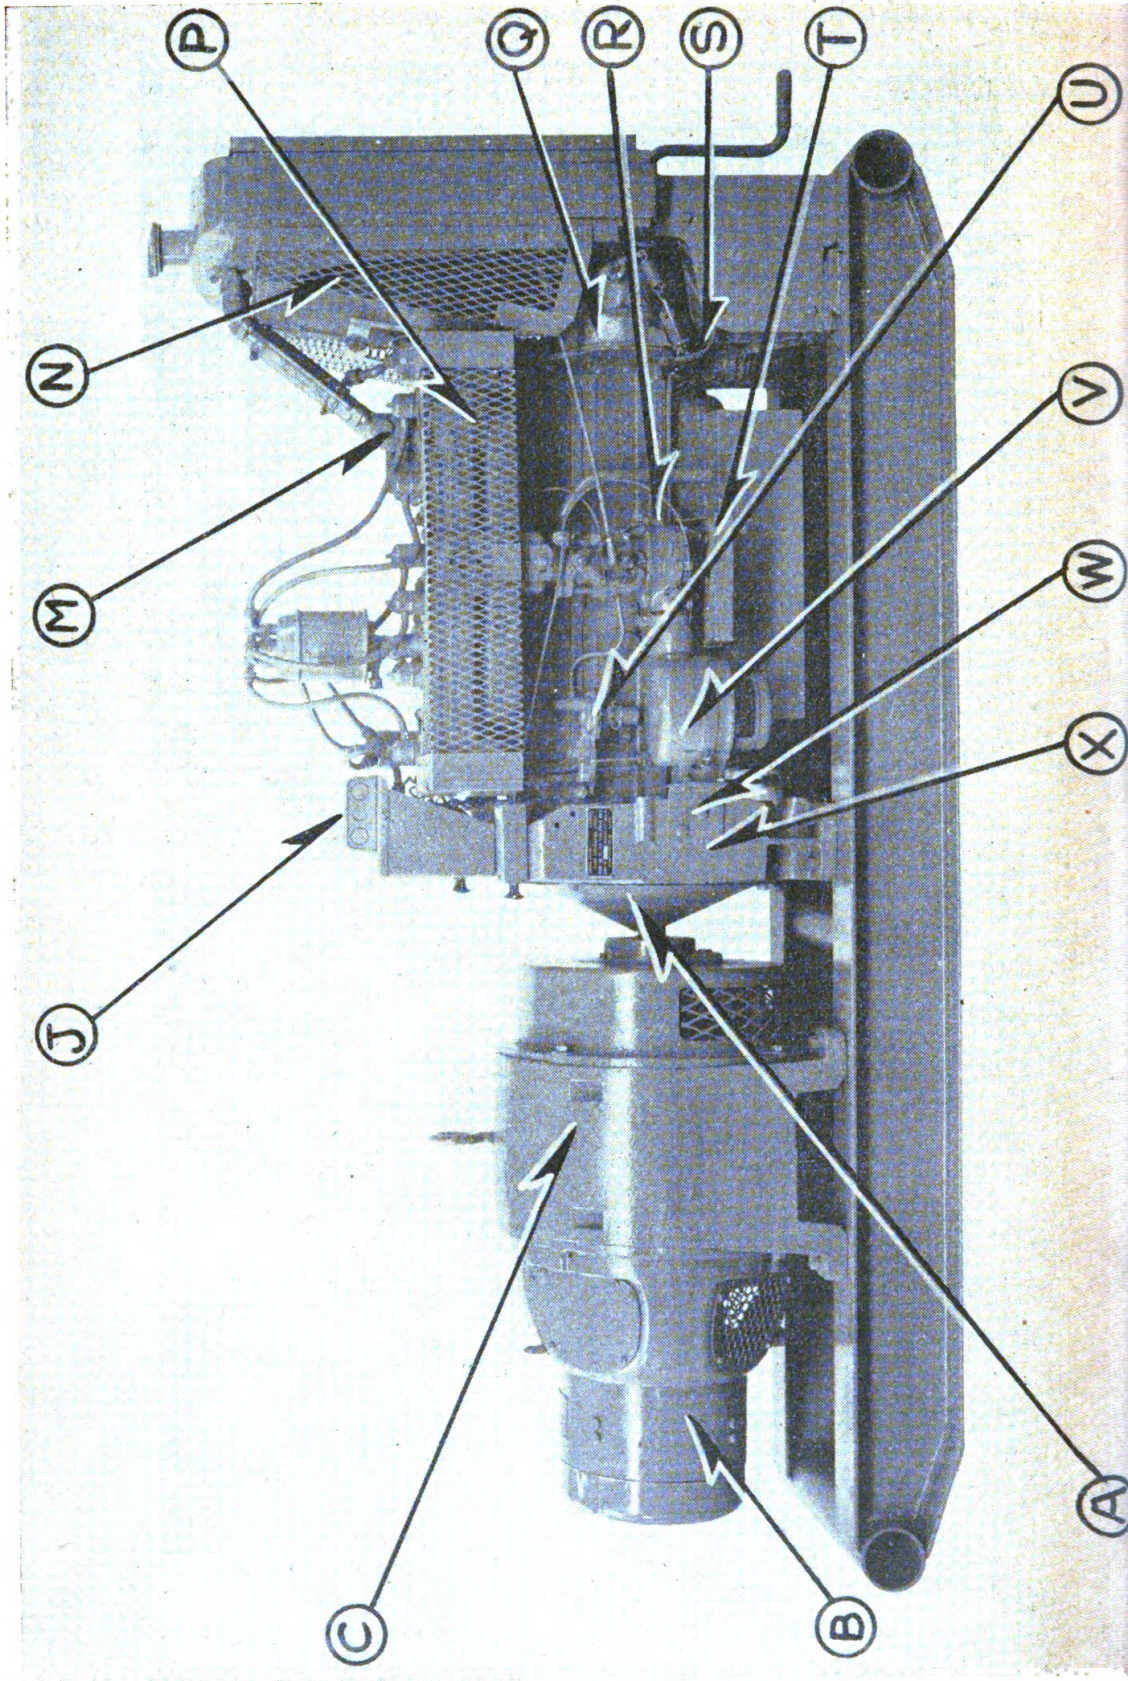

Figure 1. Power Unit PE-79-F, left side.
### LEGEND FOR FIGURE 1.
**a. Engine.** The engine (figs. 1 and 2) is a 6-cylinder, 4-cycle, L-head water-cooled automotive type. It furnishes the power to drive the alternator at a speed of 1,200 revolutions per minute (rpm). The engine develops approximately 26.6 horsepower. The piston displacement is 226 cubic inches, the bore is  $3\frac{5}{16}$  inches, and the stroke is  $4\frac{3}{8}$  inches. A description of some of the engine parts follows:
**b. Alternator (fig 1).** The 3-phase alternator consists of two generators, the d-c exciter [B] and the a-c generator [C]. Both units are attached to the same shaft which is connected to the engine drive shaft by a flexible coupling.